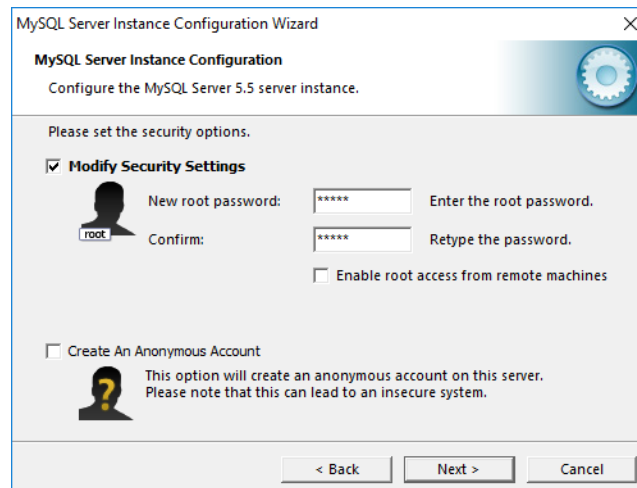

Figure A16
10. Enable "Modify Security Settings" and enter a new password for the database. Enter the password again in the "Confirm" field. Remember this password. Leave "Enable root access" disabled. Leave "Create an anonymous account" disabled. Click "Next". (Figure A16)